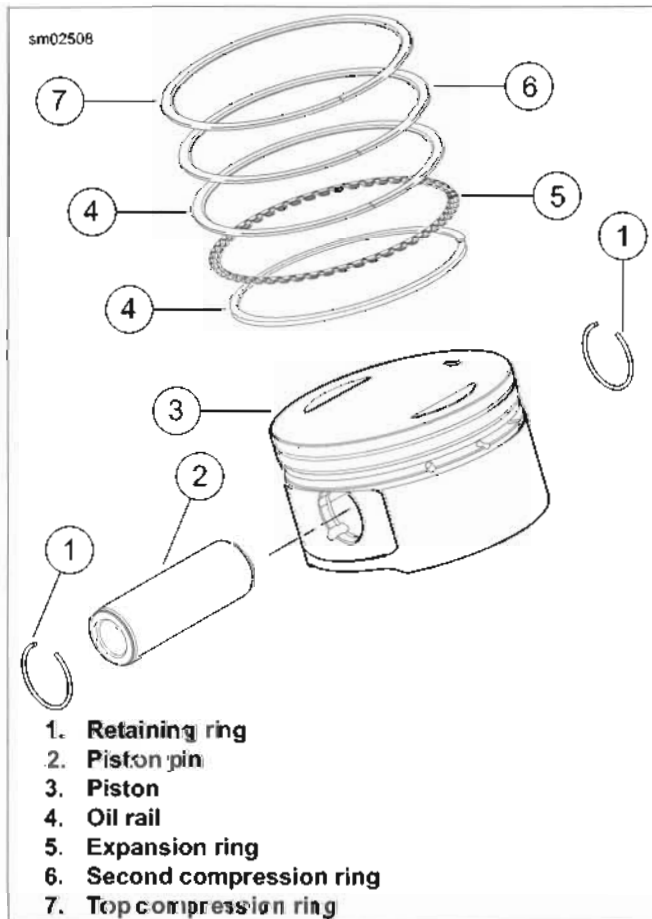

Figure 3-61. Piston Assembly
1. See Figure 3-61. Carefully remove top (7) and second (6) compression rings using the proper PISTON RING EXPANDER (Part No. Snap-on PRS8).
2. Using your fingers, remove top and bottom oil rails (4) from the third ring groove. Remove the oil rail expansion ring (5).